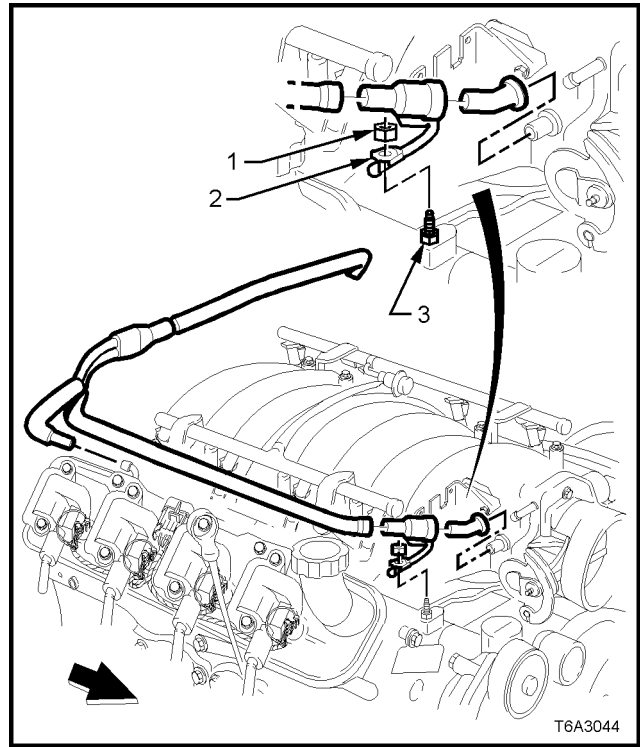

Figure 6A3-89
5. Using quick connect release Tool No. 7371 (not shown in Figure 6A3-90), install over fuel line.
6. While holding the fuel line quick connect (1), push on Tool 7371 to release the quick connect fitting (1) from the fuel rail. Pull back on the quick connect and remove.
7. Disconnect the vapour line connector (2) from the EVAP purge valve (3).